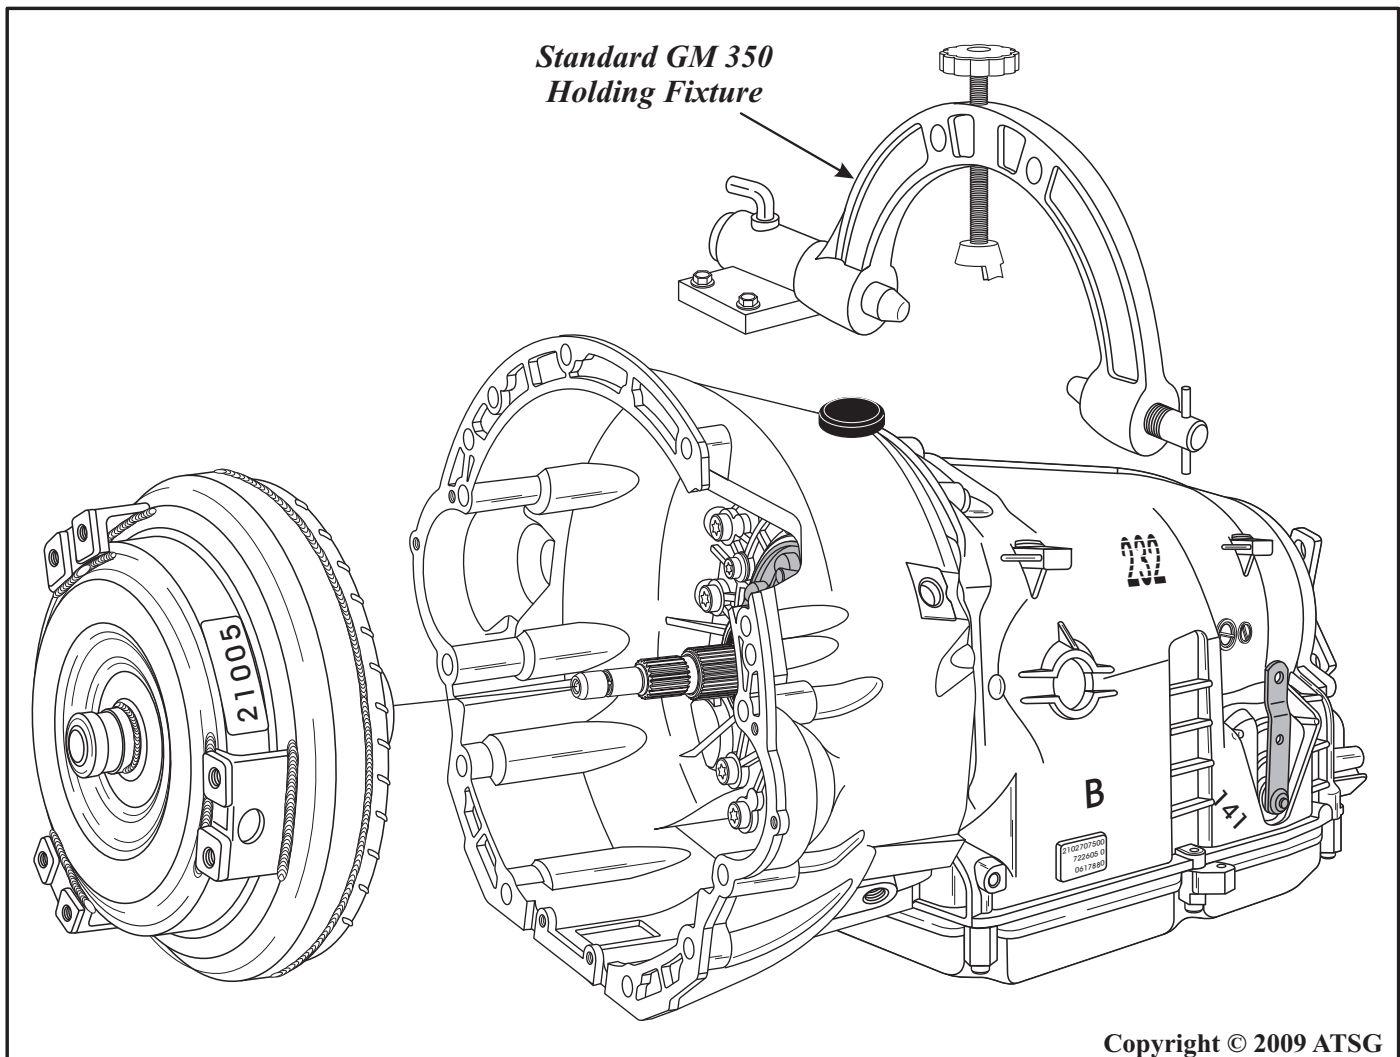

Figure 41
2. The standard GM 350 holding fixture works just fine on the 722.6 transmission, as shown in Figure 41, which will give you the benefit of rotating the transmission easily.
4. Install the holding fixture shown in Figure 41, install the unit in bench fixture and rotate the transmission so bell is facing up.